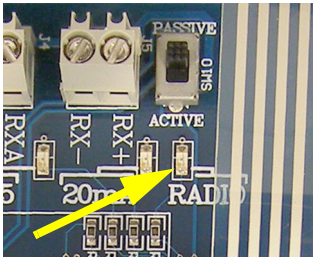

Figure 8.4 RADIO LED on the controller board
3. Verify that the Radio LED on the XR controller board is **flashing**. See Figure 8.4.